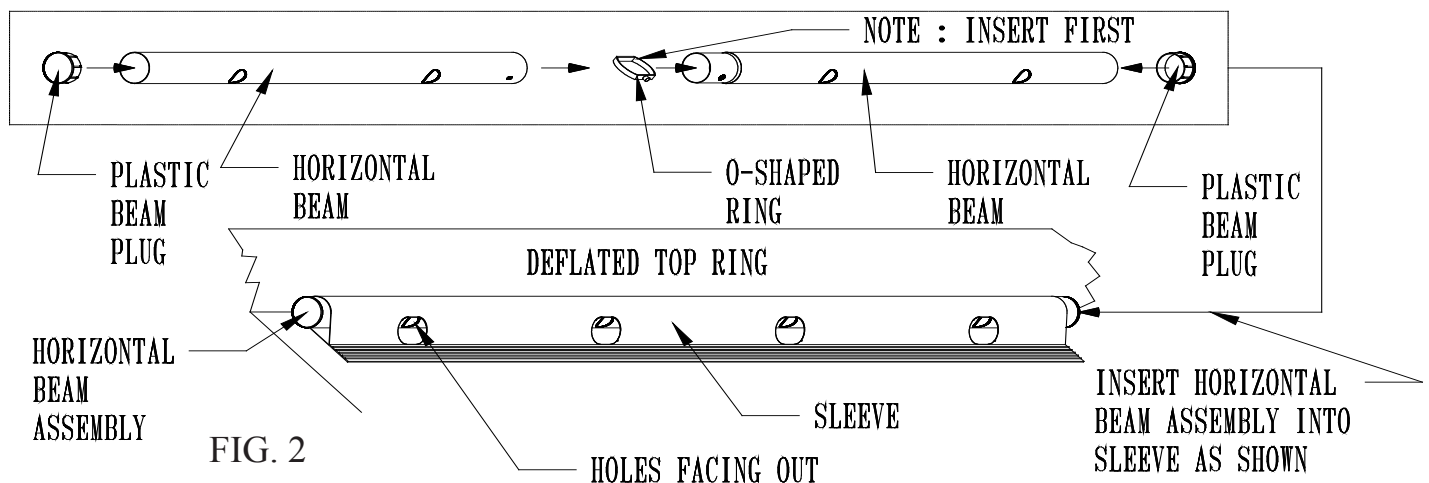

FIG. 2
3. Now, take two Horizontal Beams (different parts), insert the O-Shape Spring Pin into the smaller swaged end of the one Horizontal Beam FIG. 2 then slide them together, depress the button as you insert them together and slightly rotate them until the button aligns with the hole and pops up. Now install the plastic Beam Plugs in both ends lightly tapping them into place. Now slide this Horizontal Beam assembly through the sleeve stitched along the long sides of the pool, under the ring on both sides. FIG. 2. Make certain that the holes for the U-Shape Pipe frame are facing out.